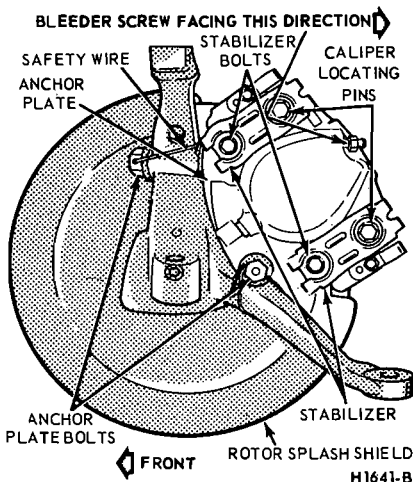

FIG. 6 Floating Caliper Installed—Rear View
5. Remove the caliper locating pins (Fig. 6).
6. Remove the upper stabilizer to anchor plate attaching bolt and remove the upper stabilizer to avoid interference with the brake hose during caliper removal (Fig. 6).